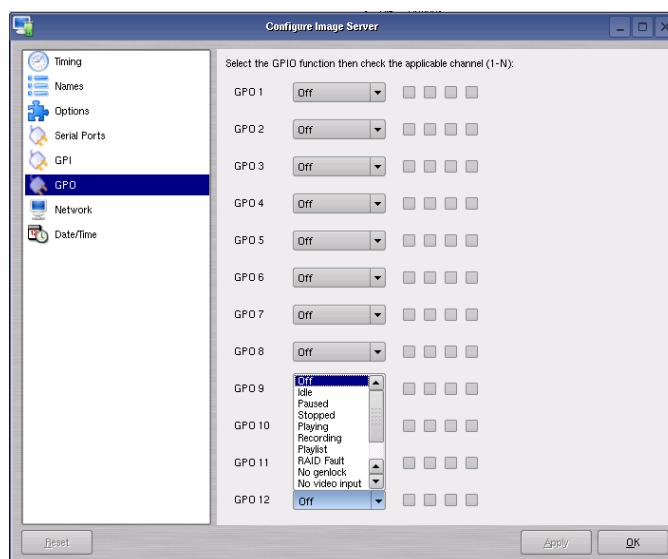

Figure 26 - GPO Configuration Screen
- A. Select **EDIT > CONFIGURE-> GPO**. The screen of Figure 26 is displayed. GPO 1 through 12 are the 12 triggerable outputs. The checkboxes to the right of each selection represent channel 1, 2, 3 and 4. GPO 9 is shown with the trigger option pulldown expanded.